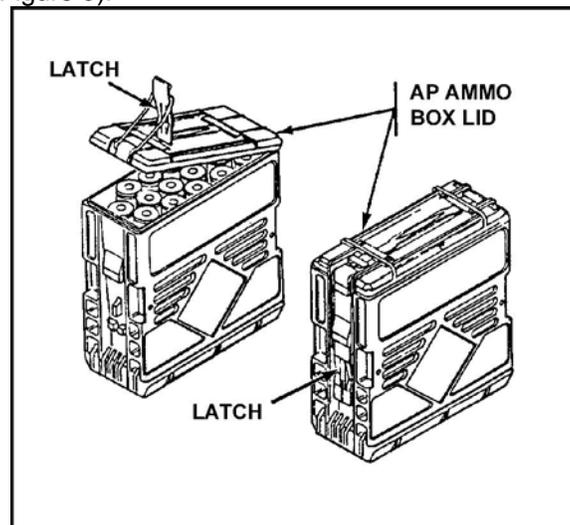

Figure 3. Ammunition box.
- c. Place the second ammunition belt in the ammunition box with the rounds pointing down. Close and latch the lid (Figure 3).